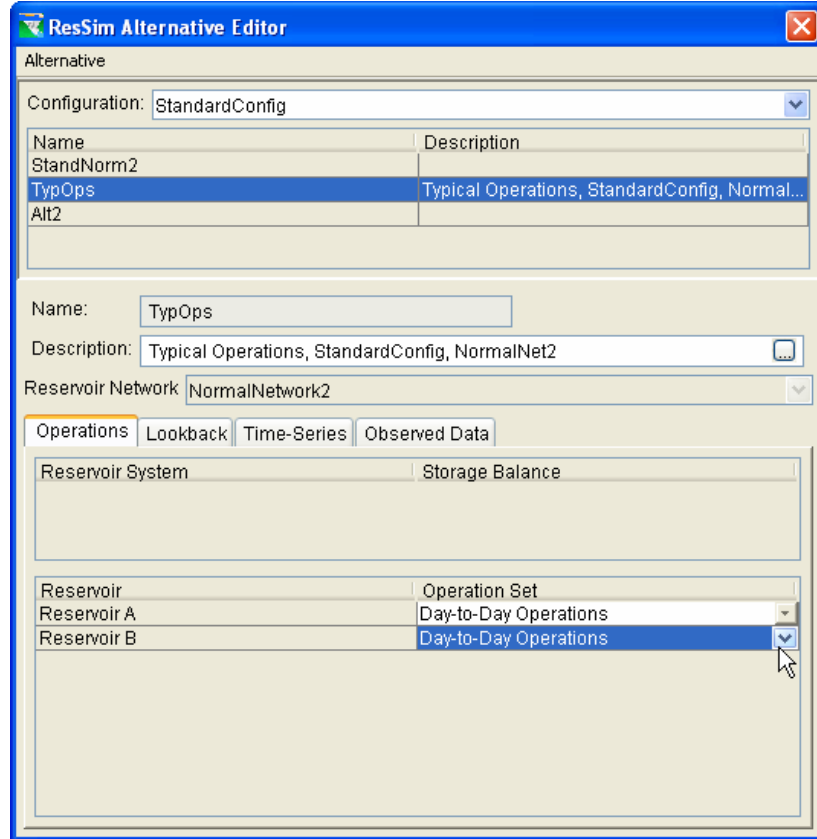

Figure 28 – Alternative Editor, Operations Tab
- In the Alternative editor, select an Alternative. On the **Operations** tab, select an **Operation Set** for each reservoir [Section 13.4]. This can be accomplished in the Operation Set column by selecting (for each Reservoir) the operation set from the list that appears, as shown in Figure 28.